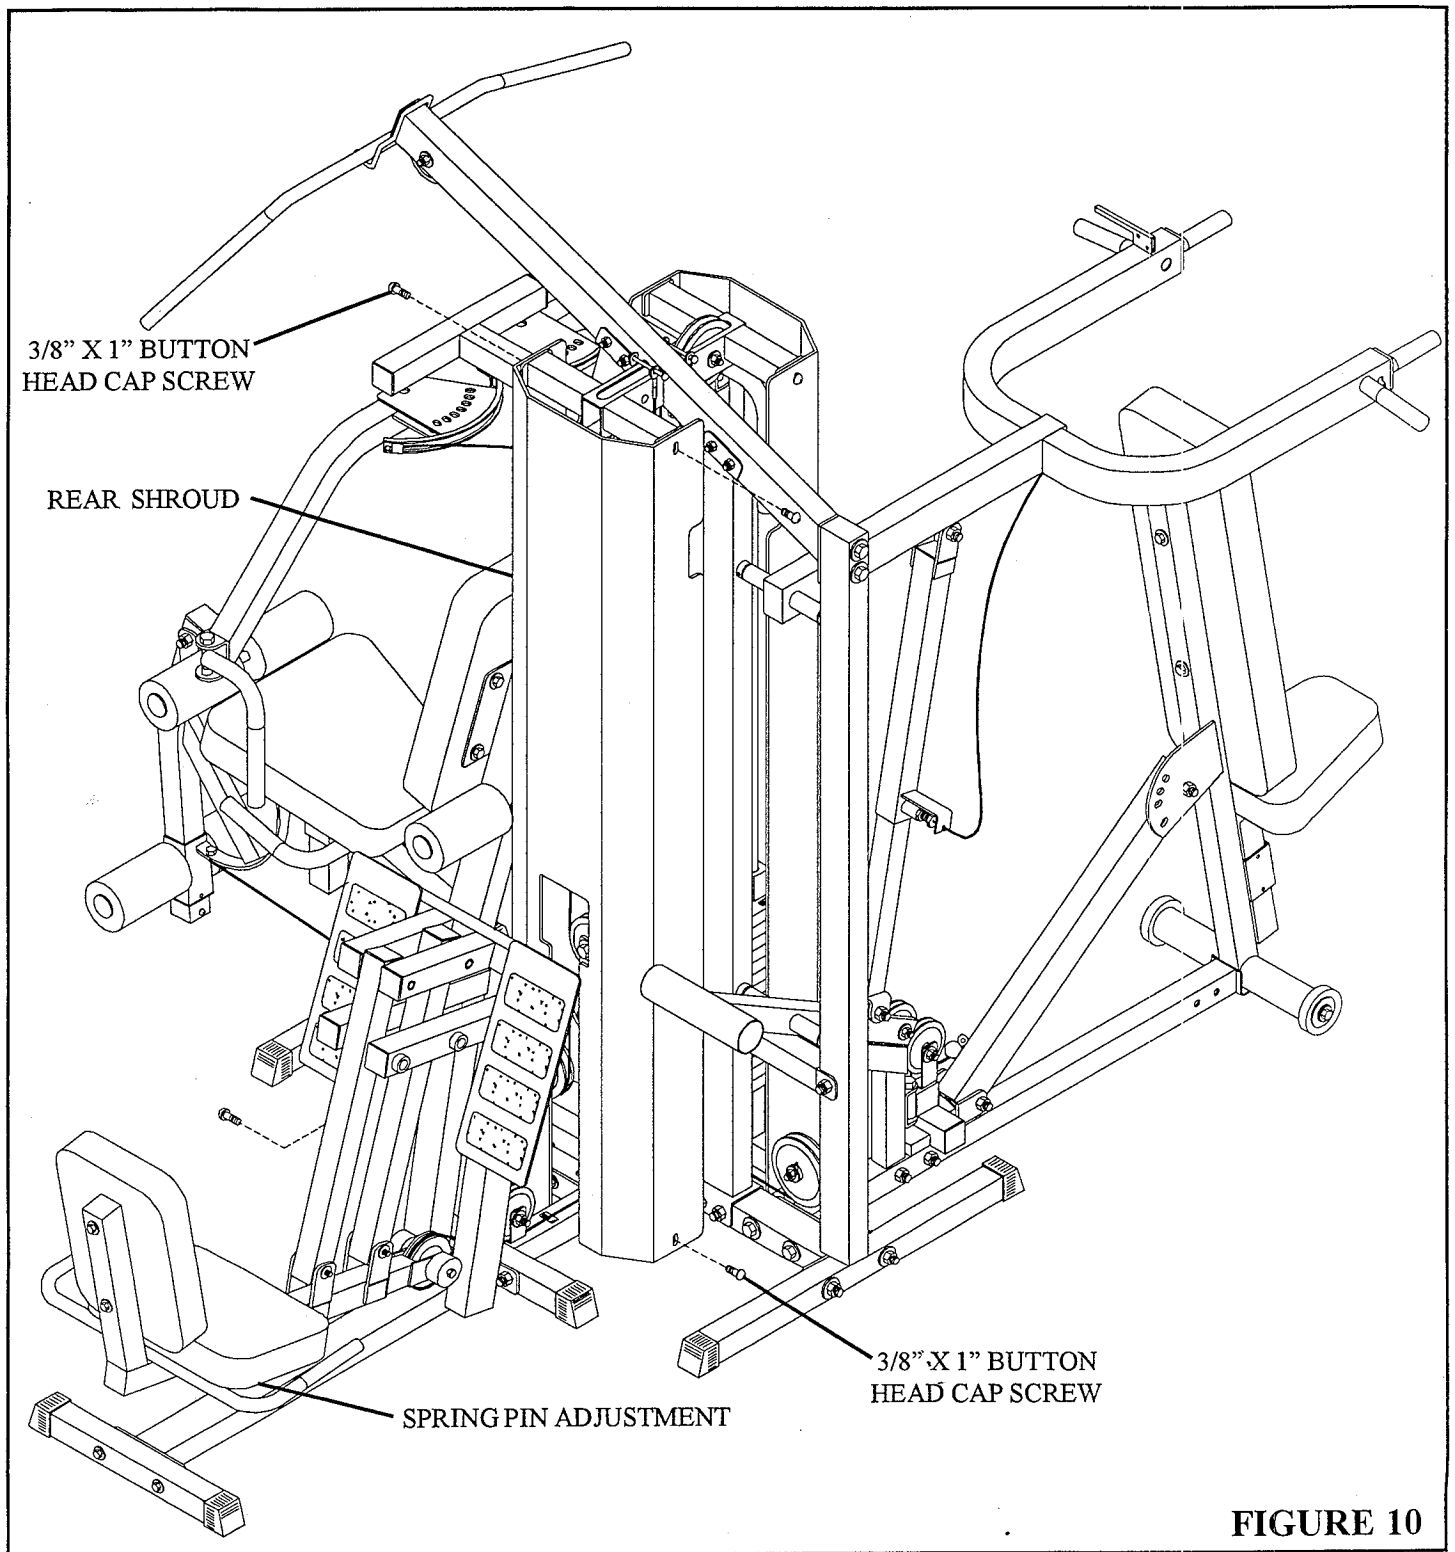

FIGURE 10
- **SECURELY** attach the four previously removed 3/8 X 1" BUTTON HEAD CAP SCREWS to the rear SHROUD. See FIGURE 10.